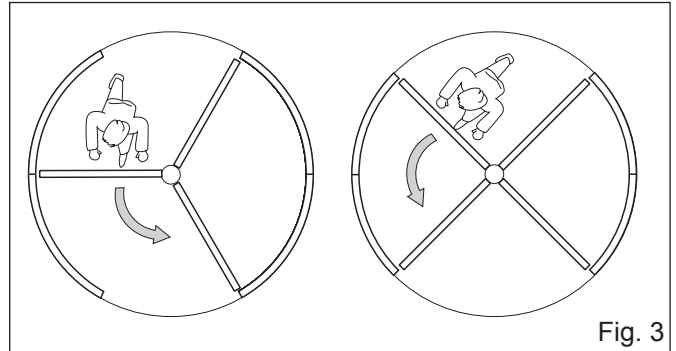

Fig. 3
- push the door wing by hand (fig. 3);